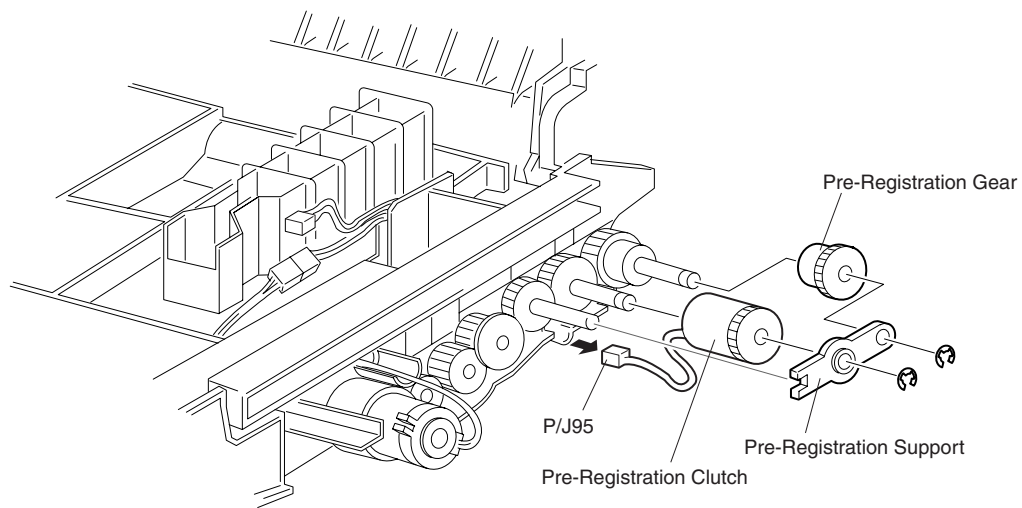

Figure 1
5. Remove the E rings securing the Pre-Registration Clutch and the Pre-Registration Gear to the Pre-Registration Support and remove the Support (Figure 1).